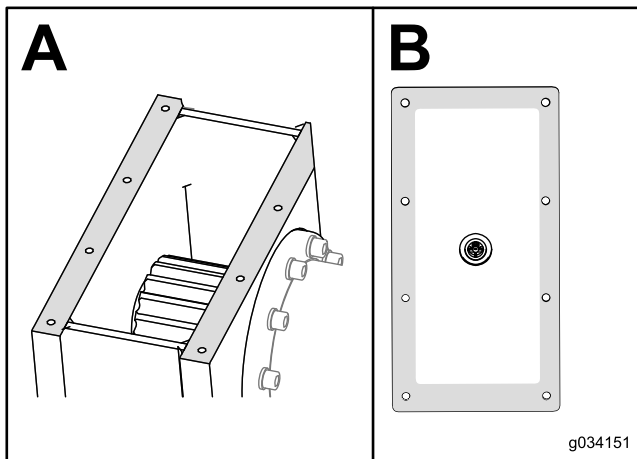

Figure 98
7. Clean the sealant off of the gearbox box and cover (Figure 98).
8. Put new automotive-grade RTV sealant around the edge of the cover (Box B of Figure 98).